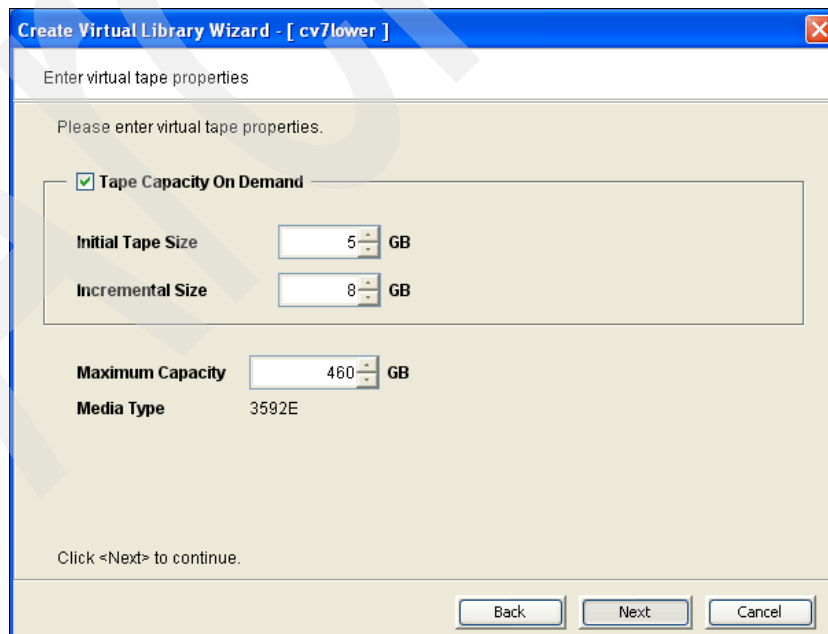

Figure 6-78 Advanced tape creation method virtual volume attributes
2. After the advanced tape creation method has been activated, a new window (Figure 6-78) is displayed by the Virtual Library Creation Wizard.